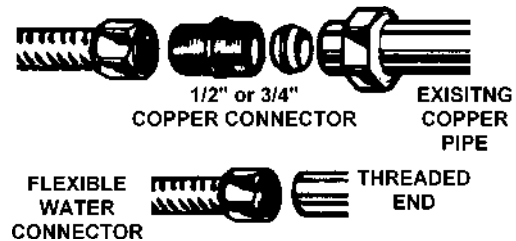

FIGURE 8.
3. If your home has 1/2" or 3/4" copper piping to the water heater, use the correct size compression fittings to connect both flexible water connector to existing copper pipes. Connect fittings to existing piping first. If your home has 3/4" galvanized piping to the water heater, simply apply Teflon tape or pipe joint compound to the ends of the galvanized pipes and screw flexible connector onto the pipes. See Figure 8.